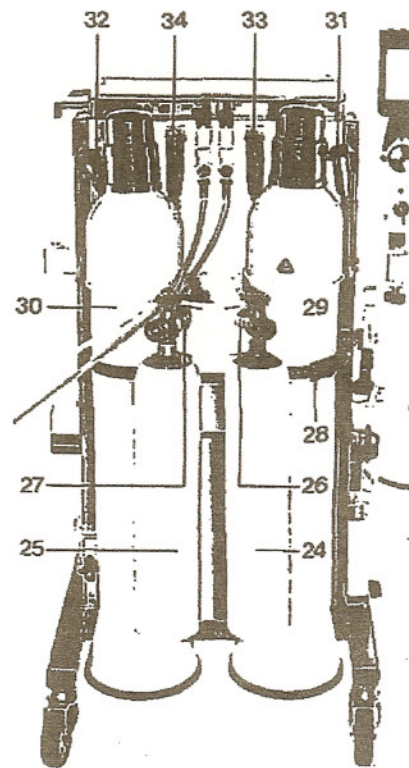

Fig. 8 Romulus 800/800 M - Back view; fitted with 2 small and 2 large cylinders
- Connection of 11 litre cylinders (Figs. 8 and 9)
Insert cylinders 29 and 30 into cylinder holders 28 and clamp in position. In accordance with Figs. 8 and 9 screw high-pressure spiral tubes 31 and 32 onto corresponding cylinder valves and connectors 33 and 34 at anaesthetic apparatus and tighten with spanner (different threads for O₂ and N₂O!).
– **Connection to central supply unit (CS)** (Figs. 8 and 9).